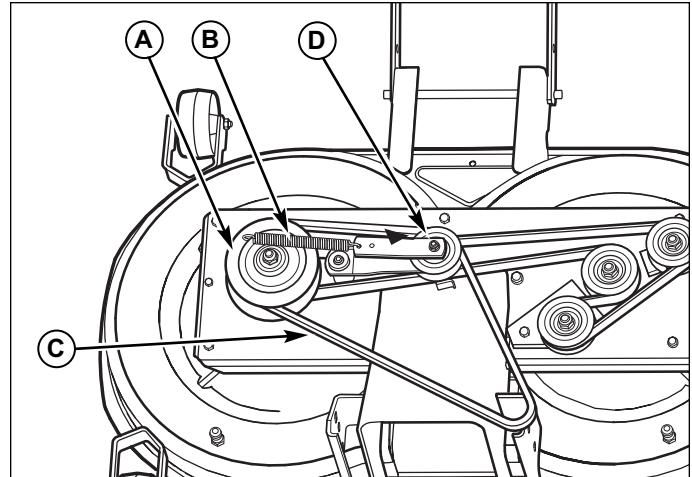

Figure 43. Mower Deck (Belt Covers Removed)
3. Remove the belt cover for the PTO pulley (A, Figure 43).
4. Unhitch the idler spring (B) from the hole at the frame bracket.
5. Remove the PTO belt (C).
6. Install a new belt on the PTO pulley (A) and idler pulley (D) as shown.